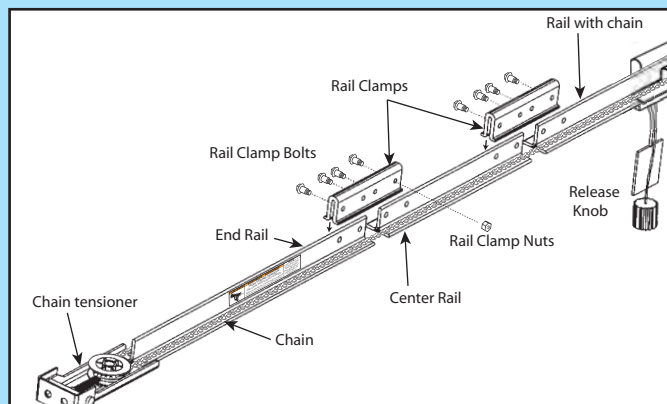

FIG. 1-3 Split Rail assembly.
6. Align the three rail sections by pulling the chain straight and wrapping it around the chain tensioner pulley (Fig. 1-3).
7. Attach the two rail clamps to the rail section joints with (4) bolts and nuts. After both rail clamps have been assembled to the rail sections, securely tighten the bolts and nuts.